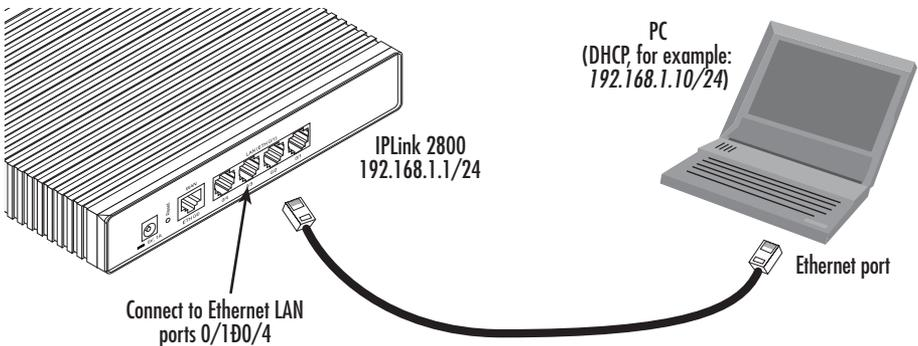

Figure 1. Connecting to the PC's ENET port
1. To access the OnSite configuration, connect a PC with an Ethernet port to one of the LAN ports (green) (see figure 1). Use the black Ethernet cable included with your OnSite for this purpose.